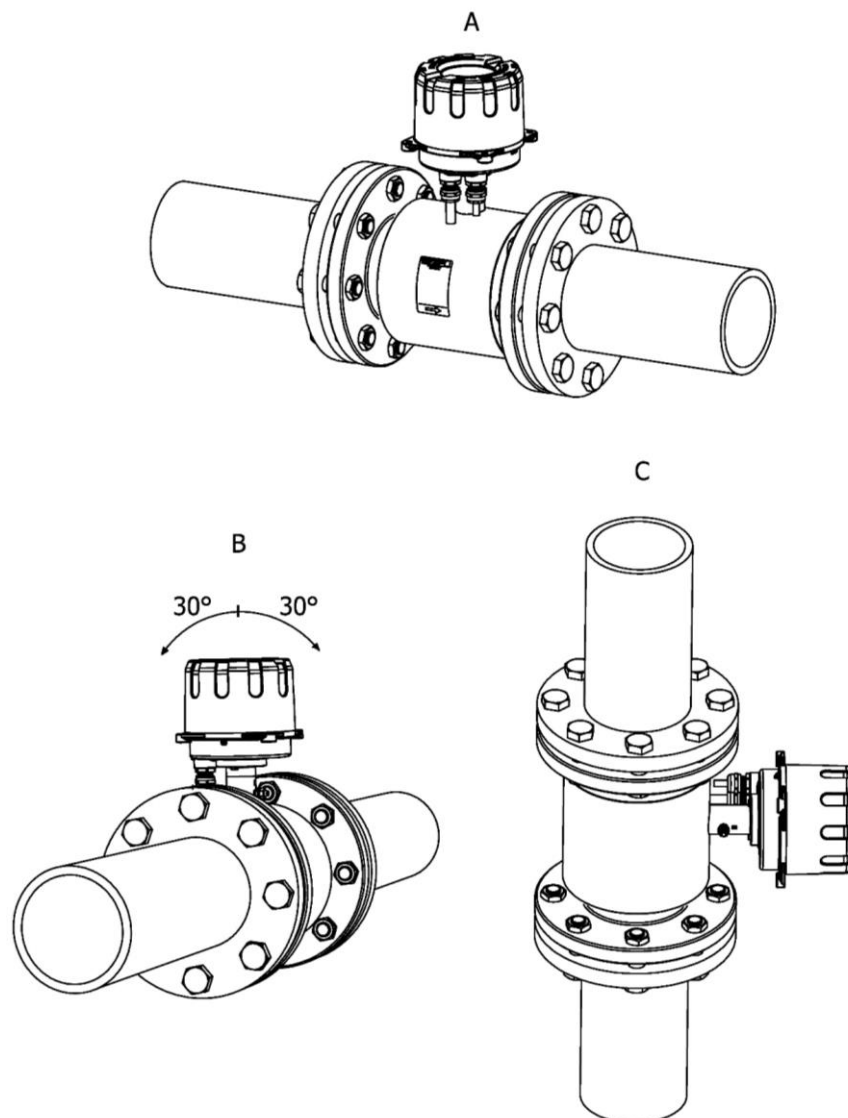

Figure 5. Installation of the PEM-500 flowmeter – examples.
- It is recommended that the flowmeter be installed so that the axis of the electrodes is as horizontally as possible as shown by the examples in → **Figure 5**.
It is recommended to install the flowmeter in the horizontal (A) position (it is possible to deviate from the horizontal plane by approx. 30° (B)) and in the vertical (C) position – according to the examples presented in Fig. 5. Otherwise, it is possible to generate an empty pipe detection alarm when there is air in the system (one of the electrodes is not immersed).